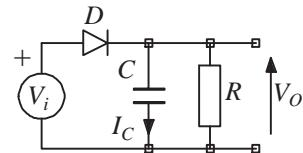
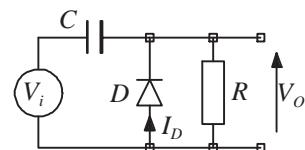
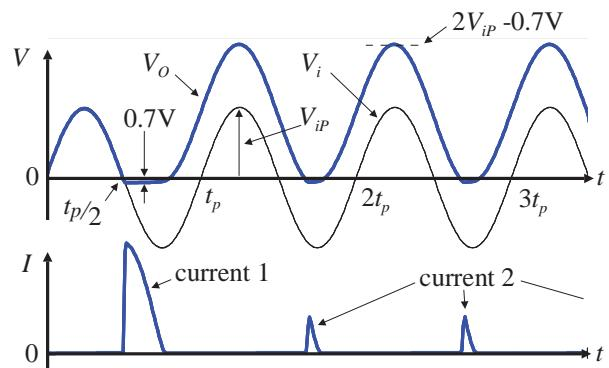

Figure 1
Figure 4
Figure 5
The first order RC circuit of figure 1 with values added. v_i is a step defined by $v_i = -2V$ for $t < 0$ and $v_i = 8V$ for $t > 0$
The circuit diagram of a peak detector is shown in figure 1. The key elements of source, diode and capacitor are connected in series and it is quite common to find a resistor in parallel with the capacitor. The source may be a transformer secondary as is common in radio circuits or an amplifier output as is more typical of instrumentation systems. The idea is simple; when V_i is positive, D conducts and C charges to $(V_i - 0.7V)$ as current flows from V_i through D to C . For high values of R , ie, values that allow only a small fraction of the charge put into C to be lost in one periodic time of V_i , V_O remains more or less constant during a cycle time.
A basic diode clamp circuit is shown in figure 4. It contains the same components as the peak detector of figure 1 but they are put together in a different order. Figure 5 shows the input voltage output voltage and diode current that arise when the circuit of figure 4 is driven by a sinusoid switched on at $t = 0$. The action of the circuit is as follows.
In the first half of the second half cycle, which begins at $t = t_p/2$, V_i continues to fall. V_O follows until it reaches $-0.7V$ at which point D becomes forward biassed and begins to conduct (current 1 in figure 5). D conducts for the first half of the half cycle and thus holds the voltage on the output side of C at $-0.7V$. By the time V_i has reached its negative peak a charge of $C(V_iP - 0.7)$ has been stored in C .
When V_i gets close to its negative peak, V_O reaches $-0.7V$ and a current flows once more through D into C . This current is replacing the charge lost by C because of the small current flowing through R for all the time V_O was above $0V$. It is clear from figure 5 that this current (labelled as current 2) is much smaller than the current in the first half of the second half cycle (labelled as current 1). If R was infinitely large, current 2 would be zero because C would have lost no charge.
Voltage and current waveforms associated with the diode clamp of figure 4.
- 1 V_i can be superimposed on any dc voltage without affecting the circuit behaviour. The practical limit to any such dc voltage is the votage rating of the capacitor C . In figure 5 V_i is drawn with an average value of zero because it is useful to have the waveshapes close to each other.